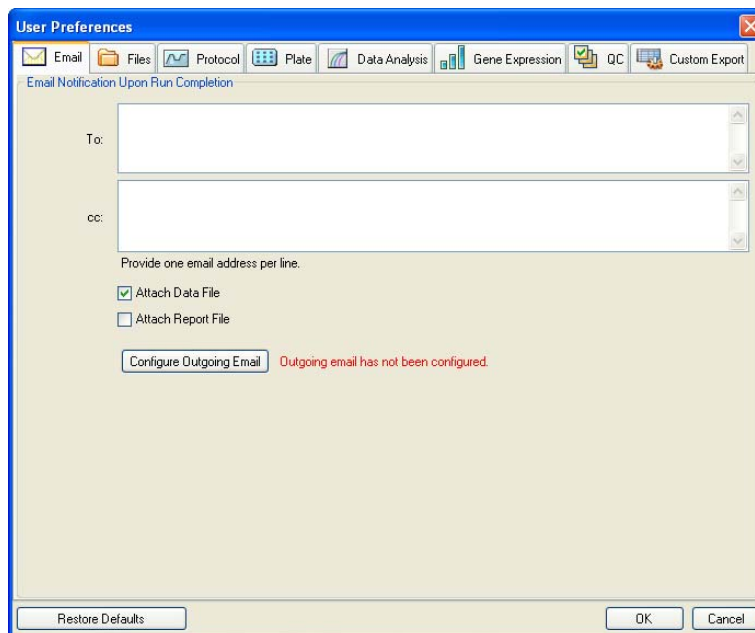

Figure 101. User Preferences window with tabs.
- Click one of the tabs (Figure 101) to view or change preferences
Select the **Email** tab (Figure 101) to enter the email addresses where you want to receive confirmation of the completion of runs. The software can send an attached data file or report file with the email when the checkboxes next to these options are checked.